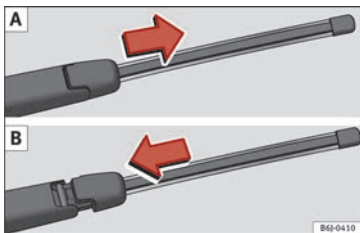

Fig. 67 Removing and fitting the rear window wiper blade.
- Slide the blade adapter in the direction of the arrow and remove the blade » » **Fig. 67 A.**
- Place the blade as shown in » » **Fig. 67 B** and slide the adapter along until it engages.